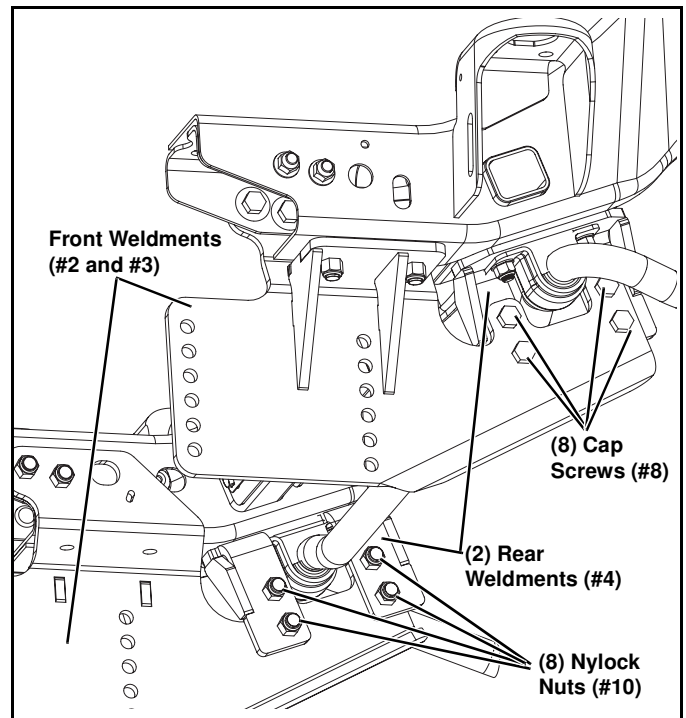

Figure 9
13. Use (8) 1/2"-13 x 1-1/2" Cap Screws (#8) and (8) 1/2"-13 Nylock Nuts (#10) to loosely secure Front Weldments (#2 & 3) to the Rear Weldments (#4). (See Figure 9).